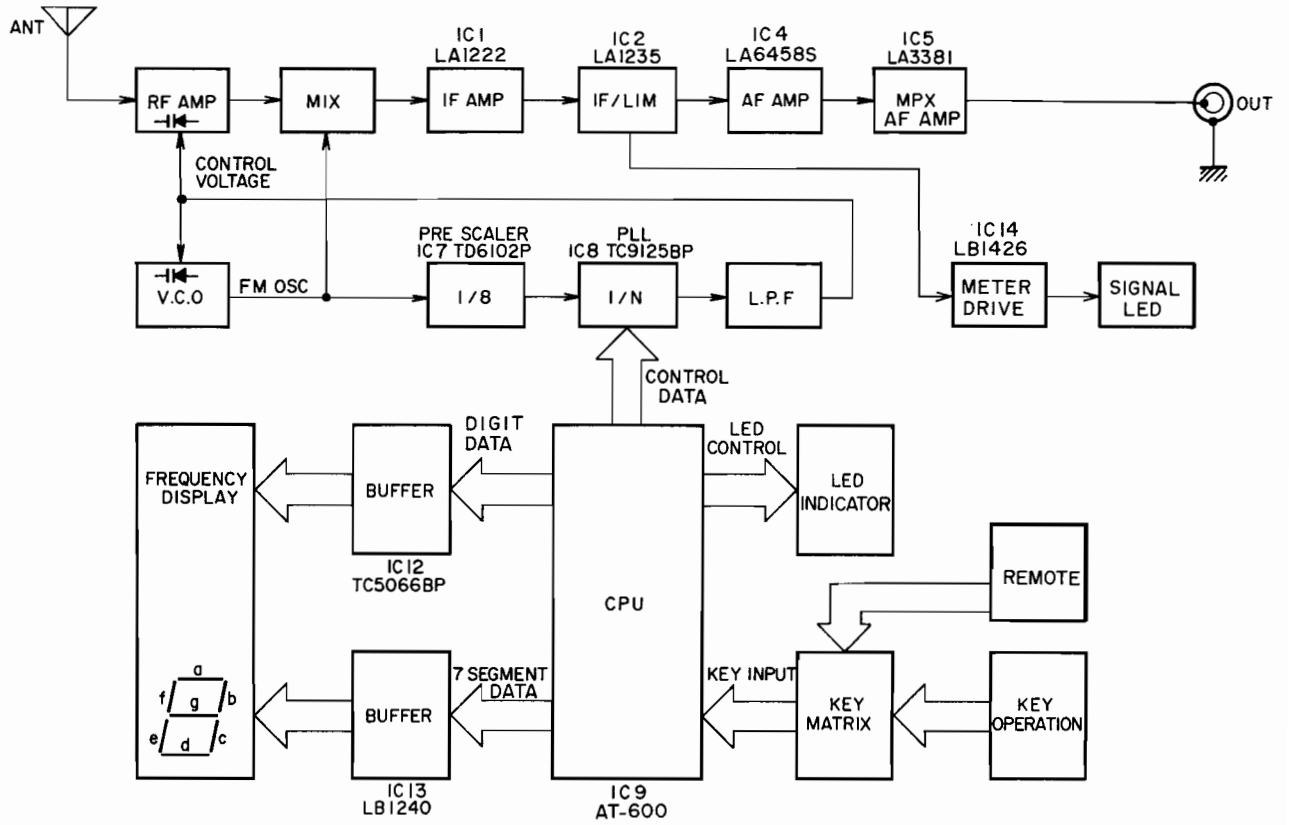

Fig. 4 FM Synthesizer Block Diagram
1. AM (AT-S61L: MW) SECTION ADJUSTMENT (Refer to Fig. 4)
Unless otherwise specified, use the adjustment points provided on the Tuner P.C Board. (Fig. 4)